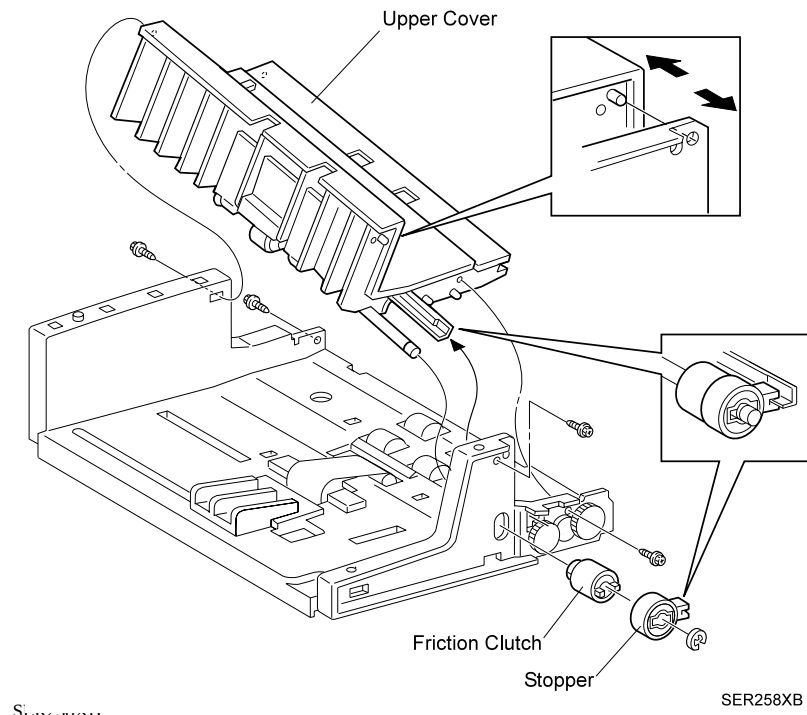

Figure 1
4. Remove the KL clip securing the Friction Clutch and Stopper to the Retard Shaft (Figure 1), and remove the Clutch and the Stopper.